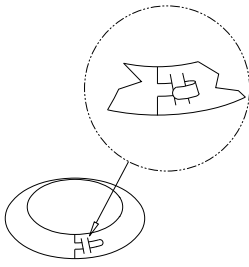

Figure 11
- f. Wrap the Collar of the Attic Insulation Shield around the chimney and fasten it loosely. Slide the Collar down to meet the Attic Insulation Shield. Slip the tab through the adjacent slot and fold it back to tighten and secure the Collar (**Fig 11**).